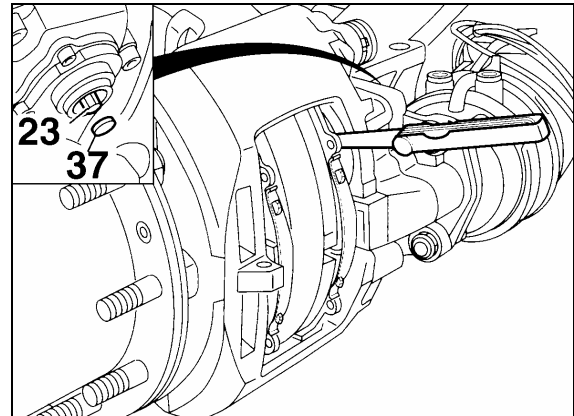

FIGURE 35: RUNNING CLEARANCE
- Insert a feeler gauge 0.028 inch (0.7 mm thickness) between tappet and pad back-plate (Fig. 35). Turn adjuster pinion clockwise until 0.028 inch (0.7 mm) clearance is achieved. Replace cap (37) (Prévost # 641313).
- To ensure a constant running clearance between the rotor and pads, the brake is equipped with an automatic adjuster unit. When the pads and rotor wear, the running clearance between the pads and rotor increases. The adjuster (23, Fig. 35) and turning device turn the threaded tubes by the amount necessary to compensate the wear.